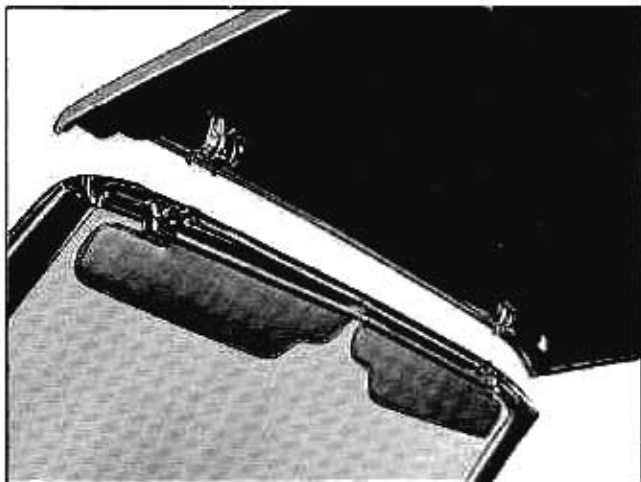

Fig. 7-4 Disengaging Top From Header
3. Raise front of top (Fig. 7-4) to disengage front roof rail from windshield header.